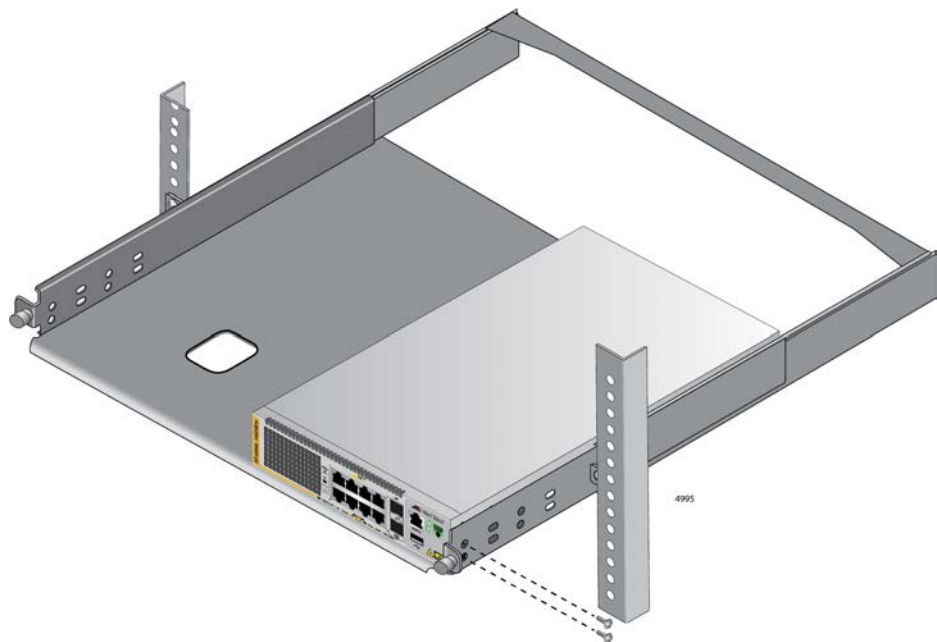

Figure 43. Securing the x530L-10GHXm Switch to the RKMT-J15 Bracket
8. Install two M4x6mm screws included with the RKMT-J15 using the first set of holes to secure the switch to the bracket. Refer to Figure 43.